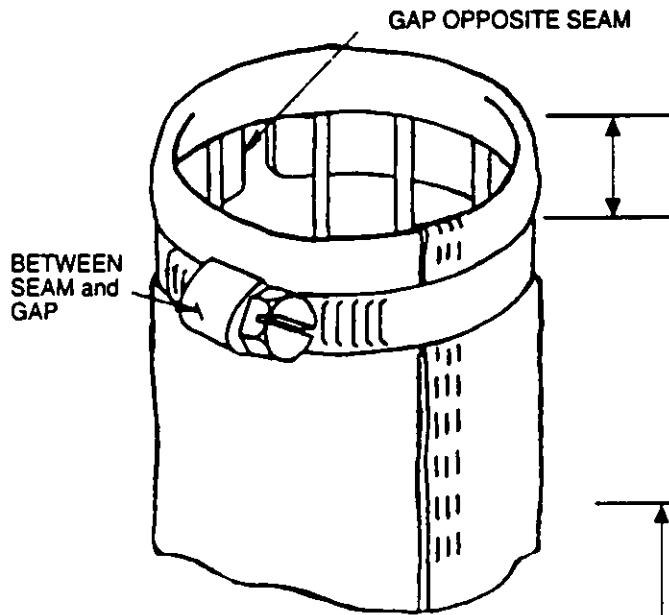

Fig. 1
- a. Slip the filter bag over a wire retainer with the bag seam 180° from the slot in the top of the retainer (Figure 1). Pull the bag over the retainer until bottom of bag is against the bottom of the retainer.